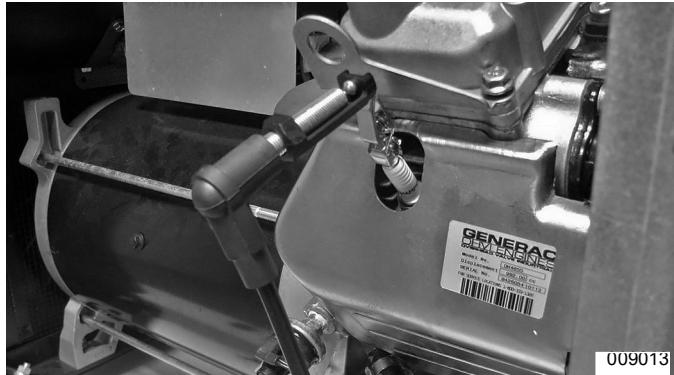

Figure 3-62. Checking Engine Miss
- See Figure 3-62. To determine if an engine miss is ignition related, connect the spark tester in series with the spark plug wire and spark plug. Then, crank and start the engine. A spark miss will be readily apparent. If spark jumps the spark tester gap regularly, but the engine miss continues, the problem is in the spark plug or in the fuel system.